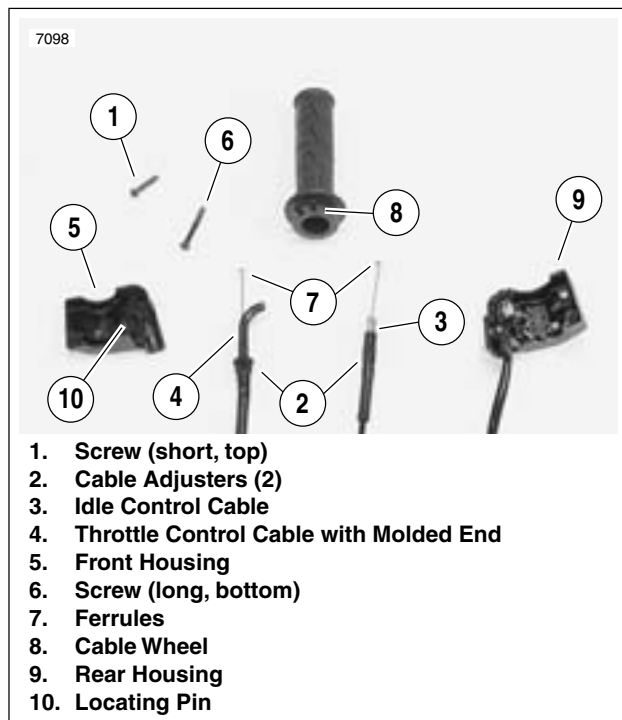

Figure 2-88. Cable Connections
2. See Figure 2-88. Remove two screws (1, 6) on front housing. Separate housings from handlebar.
3. Unhook ferrules (7) from cable wheel (8).
1. See Figure 2-88. Place cable assemblies (3, 4) into housings (5, 9). Throttle control cable (4) has a molded fitting end and is positioned inside the front housing (5). Idle control cable (3) has a smaller fitting end and is positioned inside the rear housing (9).
3. Attach ferrules (7) to cable wheel (8). When properly assembled, notches for ferrules will be at 12 o'clock.
4. Position housings on right handlebar by engaging locating pin (10) on front housing with hole in handlebar. Attach housings with two screws (1, 6), installing longer screw on bottom. Tighten to 12-17 **in-lbs** (1.4-1.9 Nm).